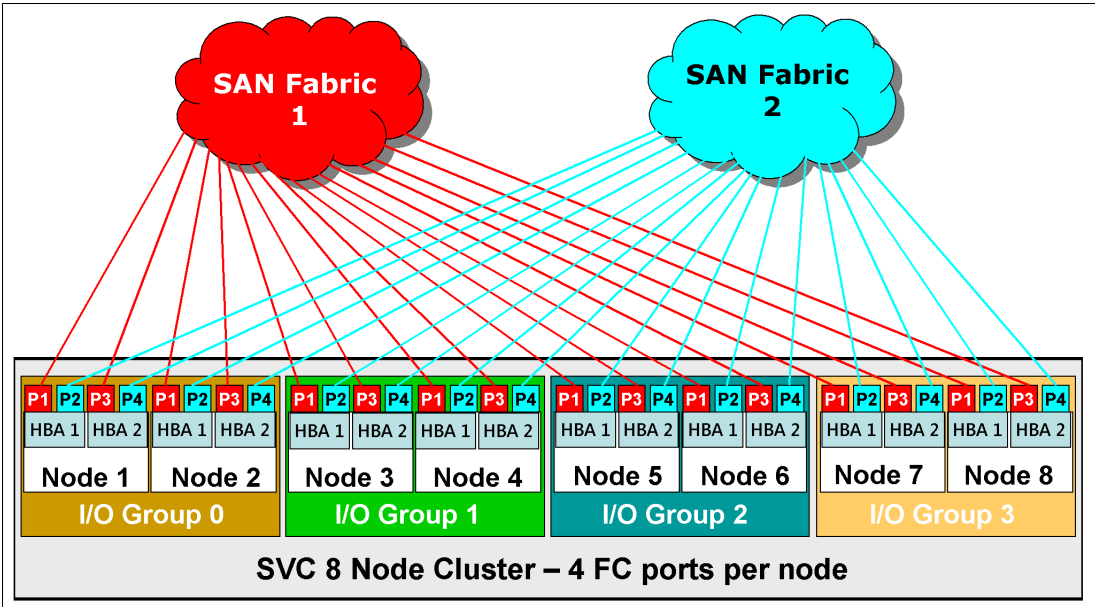

Figure 8-3 Cabling schema for a SAN Volume Controller 8-node cluster with one HBA card
When deploying a new SAN Volume Controller cluster, important steps are to connect the Fibre Channel (FC) ports correctly and to match the port masking and zoning configuration. Figure 8-3 shows the suggested SAN Volume Controller cabling diagram to SAN for dual redundant fabrics.